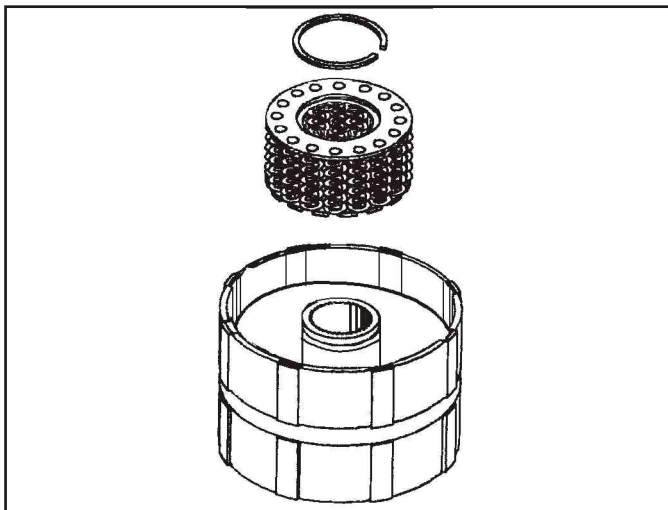

Figure 99
- Install Saturn's spring return compression fixture (SA9146T) or equivalent and compress the spring. Use snap ring pliers to remove the retaining snap ring. Slowly release the spring tension and remove the fixture and spring assembly (See Figure 99).